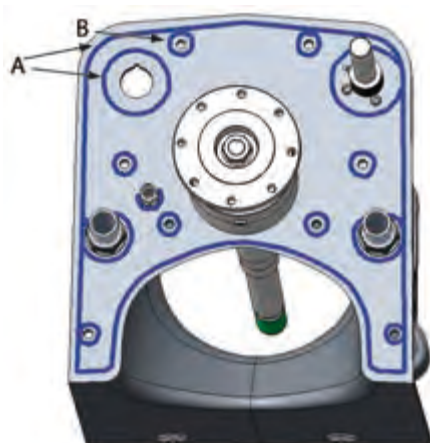

Figure 20. The frame of the propulsion unit
1. Spread sealing compound (such as Sikaflex 221) on the fixing area (figure 20, point A).
2. Put sealing compound in the fastening bolt holes (8 pcs) (figure 20, point B).